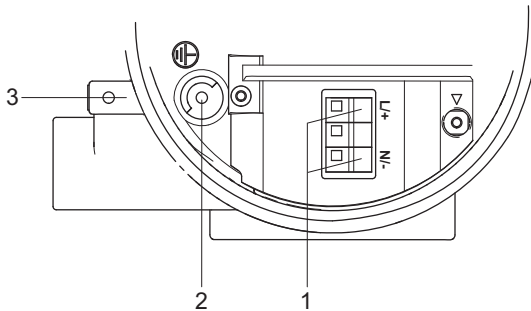

Fig. 22: Power supply terminal layout in transmitter
**NOTICE** For the graphic representation of phase and neutral conductor connection, please see chapter 7.5, fig. 22 *Power supply terminal layout in transmitter* [▶ 36]